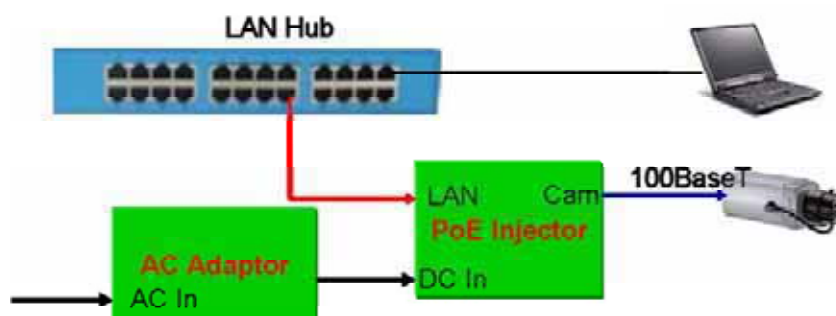

Figure 2-5. Connecting Network camera and PC using PoE Injector
1) If you have power adaptor and PoE injector, connect the network camera and PC as illustrated in Figure 2.5. Both power and network connection is made with a single LAN cable.